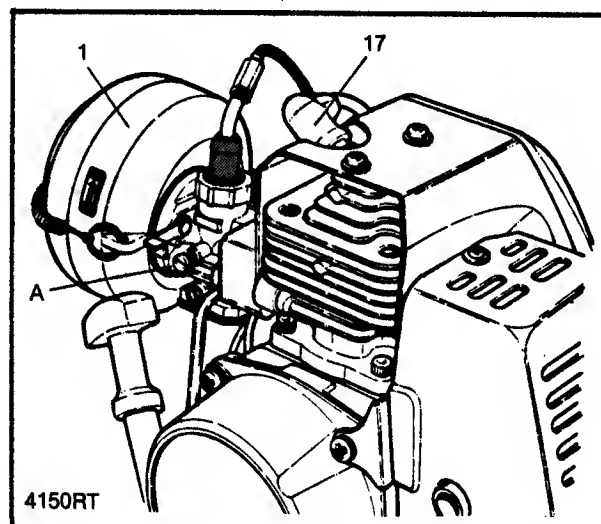

FIG. 13 - SERVICING CARBURETOR
An alternate Idle adjustment can be made by changing the TRAVEL length of the THROTTLE CABLE (21). It enters the carburetor top through the rubber cap (C). Refer to FIG. 13-A and proceed as follows: